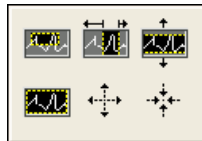

Figure 5.21
- b. Select Zoom by X Rectangle, as shown in Figure 5.21.